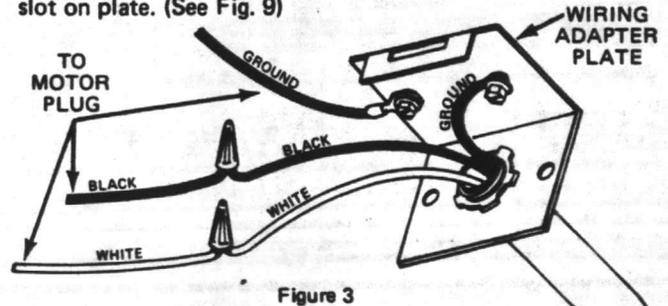
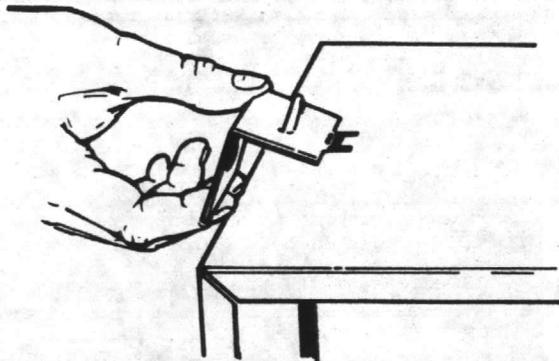

Figure 3
Figure 9
4. **Wire Unit** - Remove wiring adapter plate, which is located on top of housing (See Fig. 9), and attach
electrical cable with appropriate electrical connector. Fasten incoming ground wire (bare or green wire) to adapter plate with green ground screw provided. Connect white wire to white, black wire to black. (Fig. 3) Replace wiring adapter plate so that tab on housing slides through slot on plate. (See Fig. 9)
Wiring may enter the unit from top or side. To change wiring adapter plate position, remove sheet metal screws, flip plate over, and replace screw. Make sure that tab on housing slides through slot on plate. (Fig. 9)